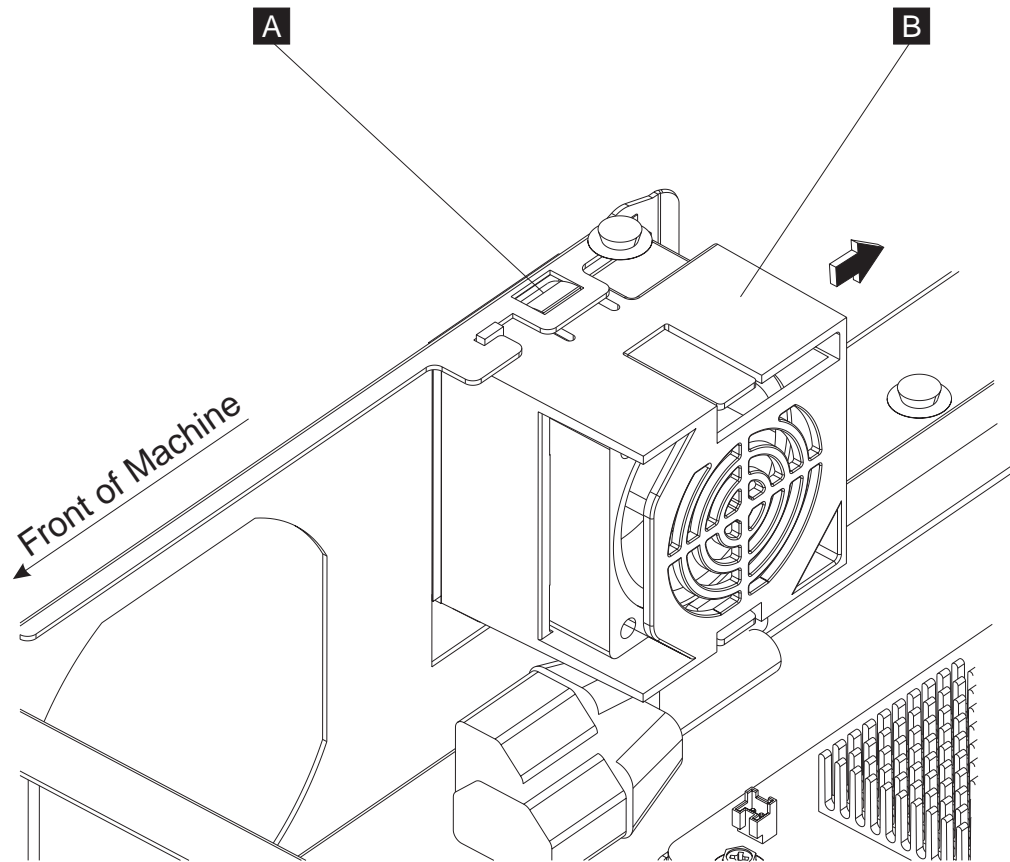

Figure 27. Removing the chassis fan with duct
3. Push down on the duct lock tab ( **A** in Figure 27 on page 37) and slide the chassis fan duct ( **B** ) towards the rear of the system. Its upper tab and lower tabs will slide out of the slots on the pullout tray sidewall, which lets you pull it from the openings in the slots.